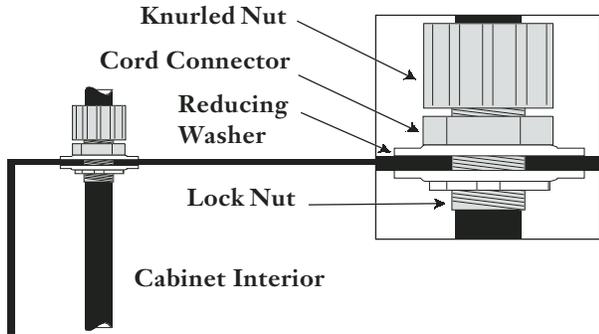

Figure 5
- c) In order to clamp the housing tightly, orient the washers so that there is a gap between them in the center as they are clamped together (Figure 5).